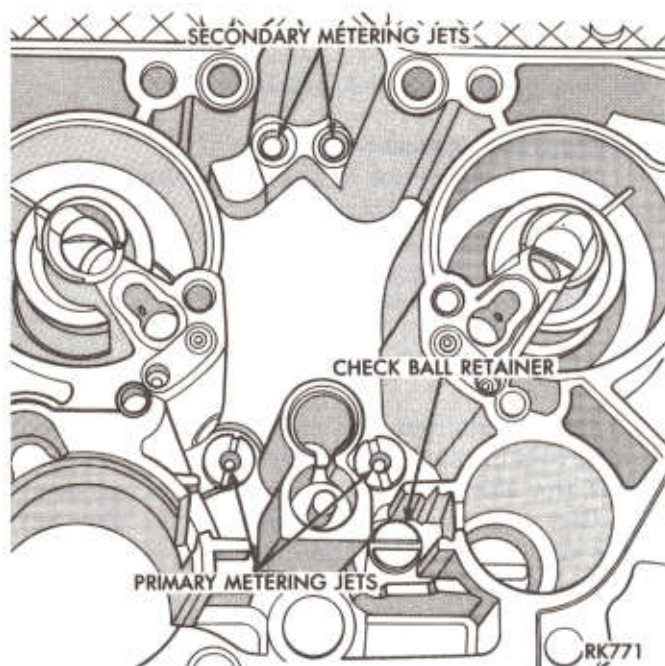

Fig. 22—Primary and Secondary Jets
(9) If necessary, remove primary main metering jets (Fig. 22). Do not remove secondary metering jets. These jets are a permanent part of the float bowl.
(10) Remove pump discharge check ball retainer (Fig. 22). Invert bowl and catch check ball as it falls from the bowl.
(12) If removed, install air baffle in secondary side of float bowl, with notches toward the top.
(13) If removed, install baffle inside of pump well with slot toward bottom.
(14) Install pump discharge ball and retainer screw (Fig. 22). Tighten screw securely.